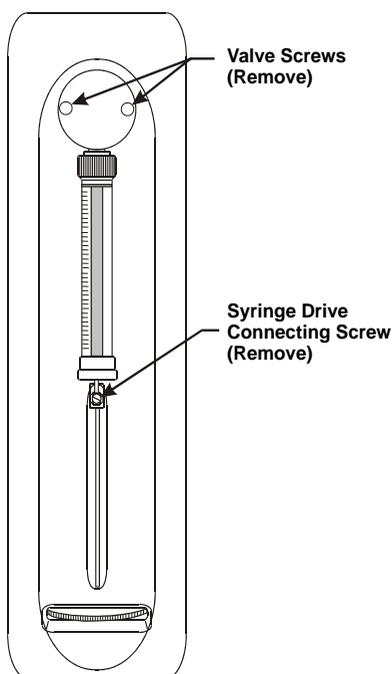

Figure 5-20. Removing the Syringe Valve
5. Unscrew and remove the syringe drive connecting screw and the two screws on the syringe valve (see Figure 5-20).